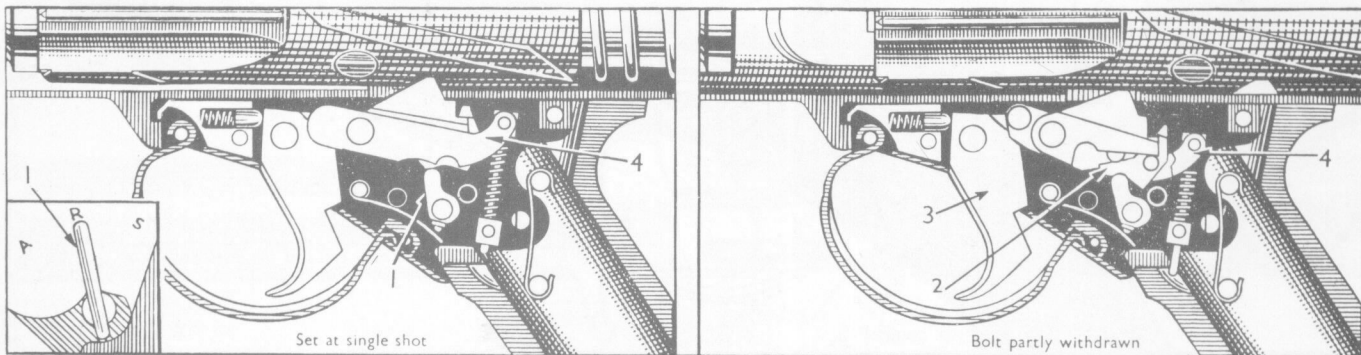

Fig. 4. Action of trigger mechanism (single shot fire)
## 5.0 ACTION OF THE TRIGGER MECHANISM (Figs. 4, 5, 6 and 7).
5.1 **SINGLE SHOT FIRE** (Figs. 4 and 5). When the change lever (1) is set to the single shot position R, the inner arm of the change lever is located under the tail of the tripping lever (2).